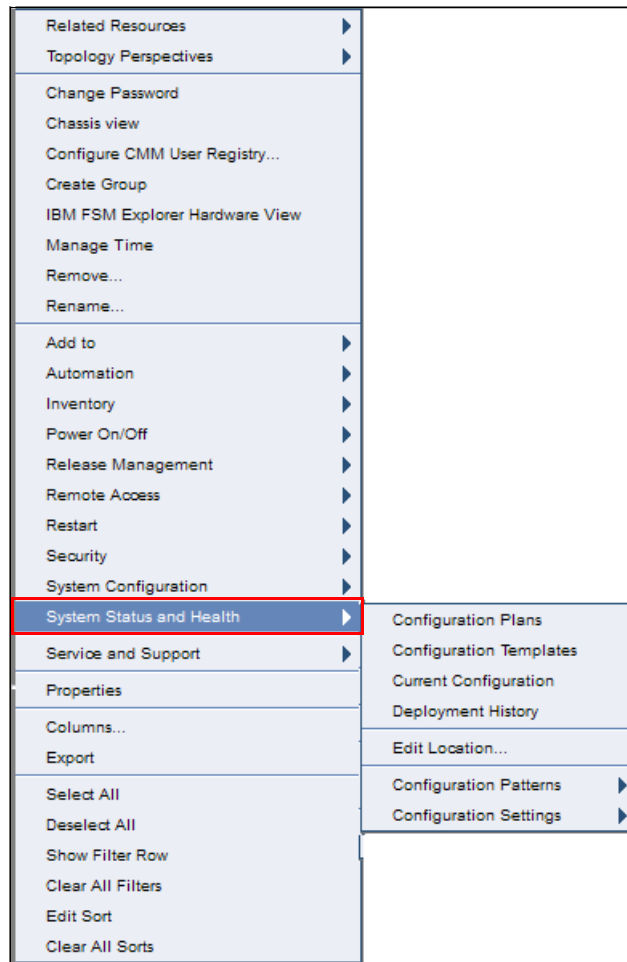

Figure 13-7 FSM - access a Flex System V7000 from the Chassis Manager page
4. Click the Actions menu for a list of storage viewing and management options, as shown in Figure 13-7 on page 539